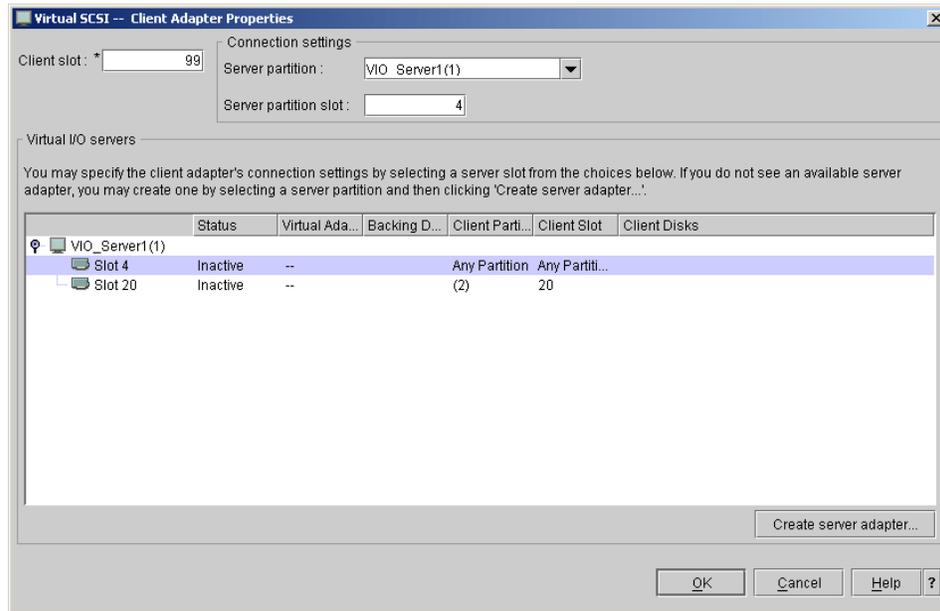

Figure 3-37 Adding the virtual SCSI adapter for the DVD
8. Create another client adapter by pointing to the server adapter marked **Any partition**, fill in the client slot number you want to use (here we use 99), and click **OK**. See Figure 3-37. We will use this adapter for the virtual DVD. See section “Virtual SCSI optical devices” on page 95 for the steps required to setup the virtual optical device.